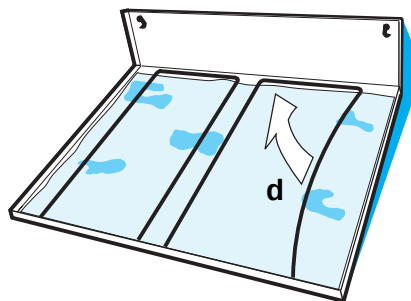

Fig. 3
4. Remove the grease filter fixing device (d - Fig. 3).